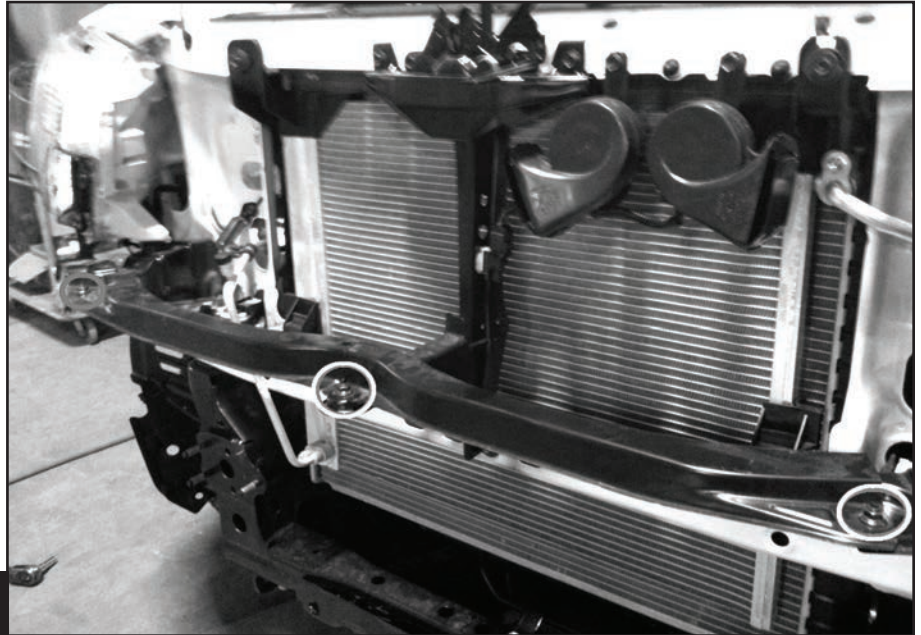

Fig 8
8. Remove (6) nuts and take off and discard aluminum crash bar.
9. Remove (3) nuts holding on upper center bumper support and discard (Fig 8).